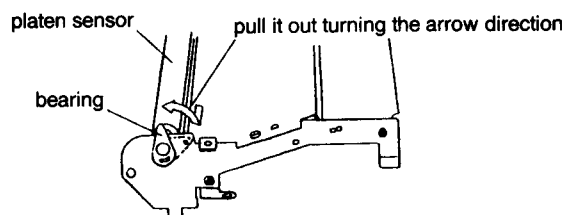

FIGURE 6-10
- (1) Replacement of the Contact Image Sensor (CIS).
- Remove the platen sensor. (See figure 6-10, 6-11)